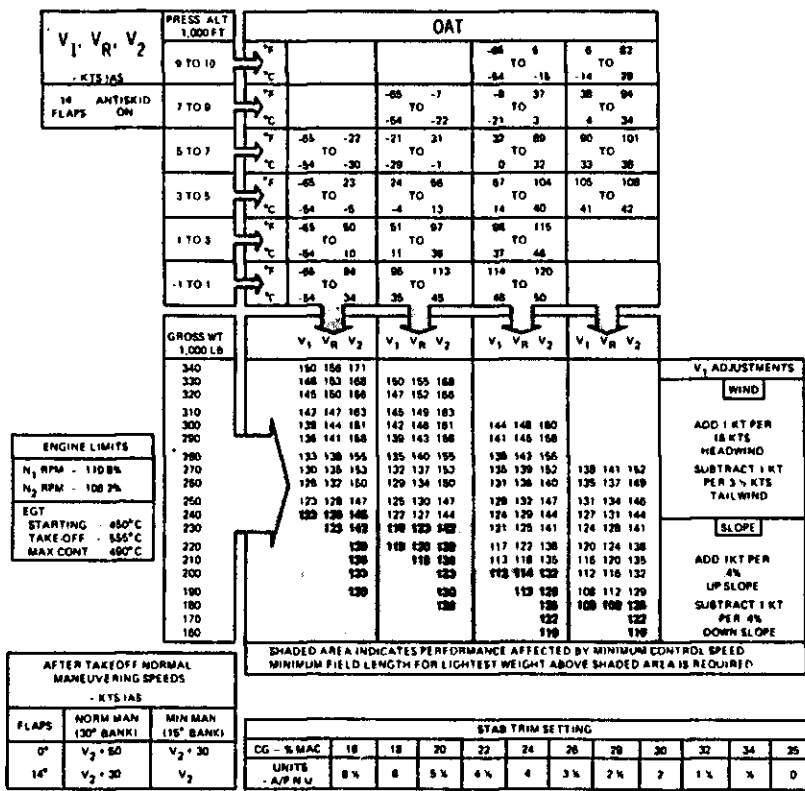

FIGURE 9. Takeoff data charts.
5. What is the specified takeoff EPR according to the takeoff data charts, Figure 9, for the following conditions?
6. What are the takeoff speeds according to the takeoff data charts, Figure 9, for the following conditions?